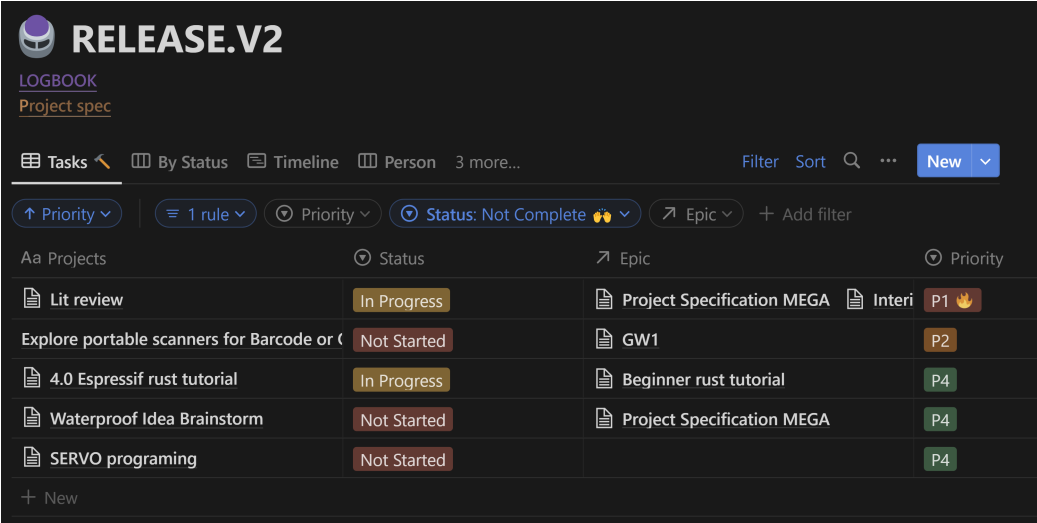

Figure 2: Notion Task View
**Task view** is used to as a to-do list and to quickly jot tasks/ideas from a phone. Each task can be as simple or complex as you like. [Fig. 2]